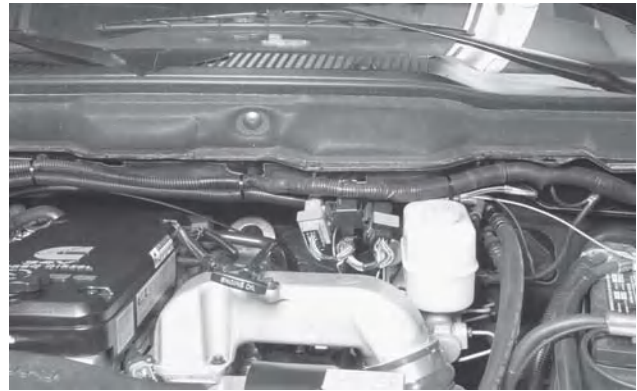

Fig. 4a
- a. Locate the two 24-pin connectors. They are located on the top side of the dash panel on the driver's side. The left connector is gray, the right connector black. Key switched power is in the black connector (see figure 4a)